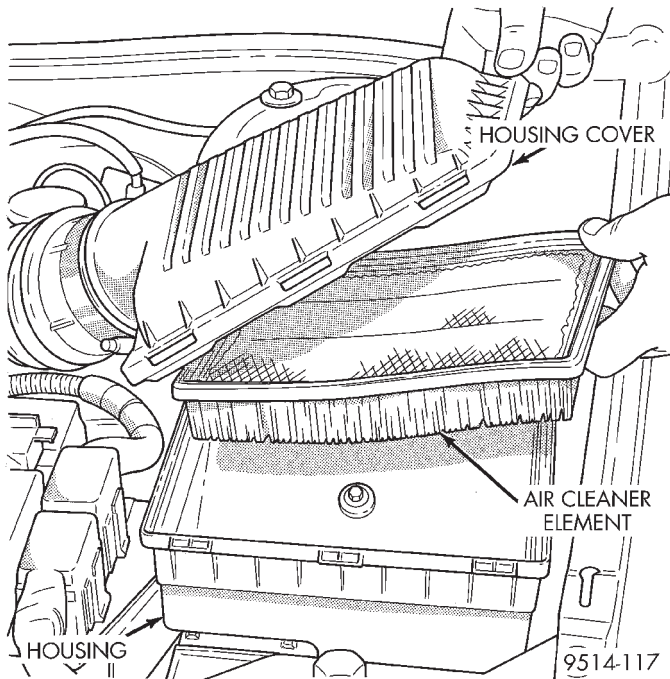

Fig. 87 Air Cleaner Housing and Element
- (2) Remove filter element (Fig. 87).
- (3) If necessary, clean the inside of the air cleaner housing.